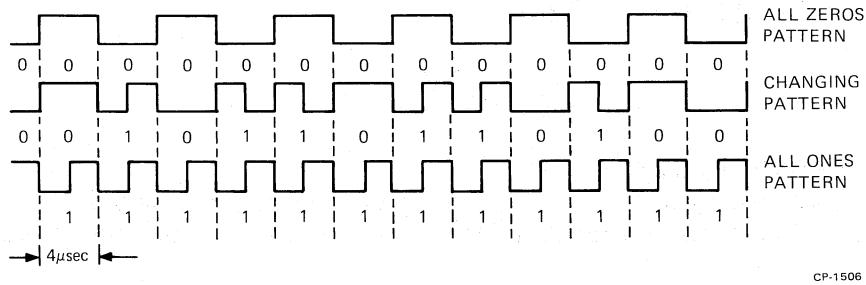

Figure 1-7 Flux Reversal Patterns for FM
1.5.2.1 Double Frequency (FM) – For the double frequency recording scheme data is recorded between bits of a constant clock stream. The clock stream consists of a continuous pattern of one flux reversal every four μ s (Figure 1-7). A data “one” is indicated by an additional reversal between clocks (i.e., doubling the bit stream frequency; hence the name). A data “zero” is indicated by no flux reversal between clocks.
A continuous stream of ones, shown in the bottom waveform in Figure 1-7, would appear as a “2F” bit stream, and a continuous stream of zeros, shown in the top waveform in Figure 1-7, would appear as a “IF” or fundamental frequency bit stream.